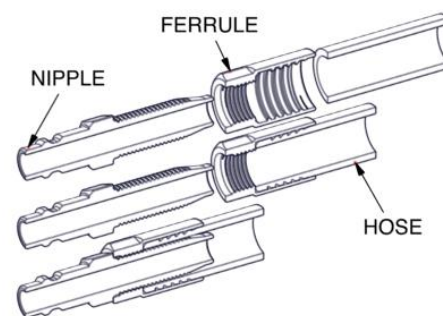

Figure 3-1. Air hose Nipple Replacement
a. **AIR HOSE NIPPLE REPLACEMENT.** Refer to figure 3-1 and replace a worn or otherwise damaged air hose nipple in accordance with the following procedure.